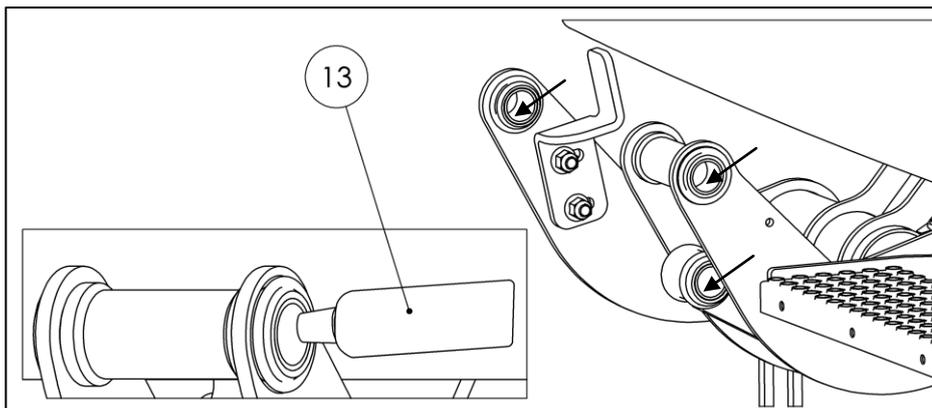

Fig. 58
- Thoroughly grease the bearing bushes with the special assembly grease (accessories kit parts list – Item No. 13) (see Fig. 58).